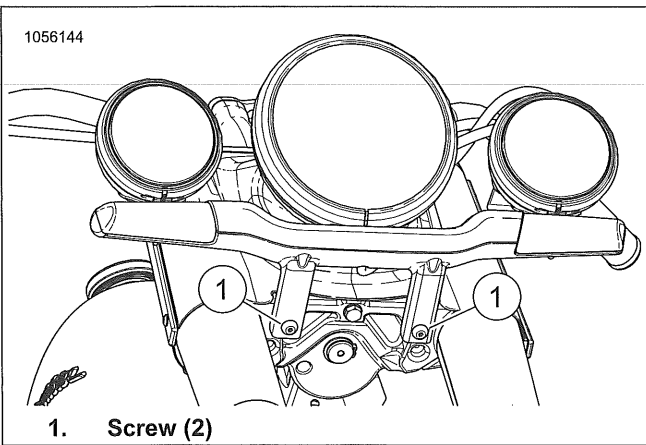

Figure 7-68. Lightbar Assembly
- 1. See Figure 7-68. Remove screws (1).
7. See Figure 7-68. Install screws (1). Tighten.